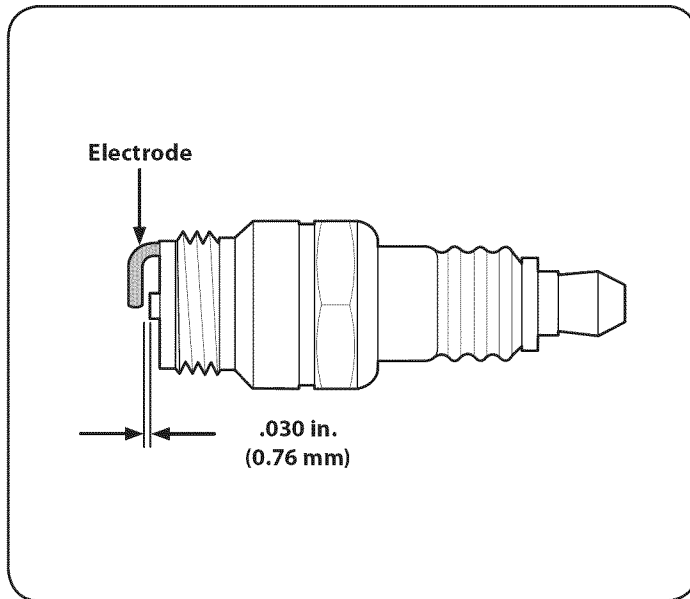

Figure 26
3. Measure the plug gap with a feeler gauge. Correct as necessary by bending the side electrode, Figure 26. The gap should be set to .02-.03 inches (0.60-0.80 mm).
2. Use pliers to squeeze tabs on the clamps, then slide the clamps away from the fuel filter. Twist and pull the fuel lines off of the fuel filter. Refer to Figure 26.